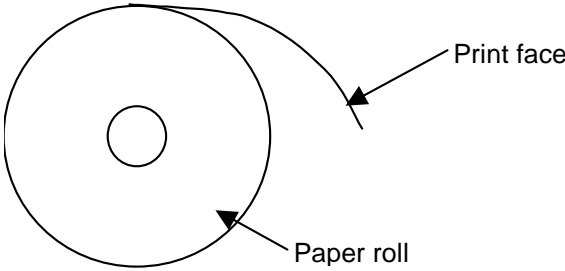

Figure 2.1.1 Paper Take-up Direction
- 4) Paper take-up direction: Outside of the paper must be printed on. (See Figure 2.1.1.)